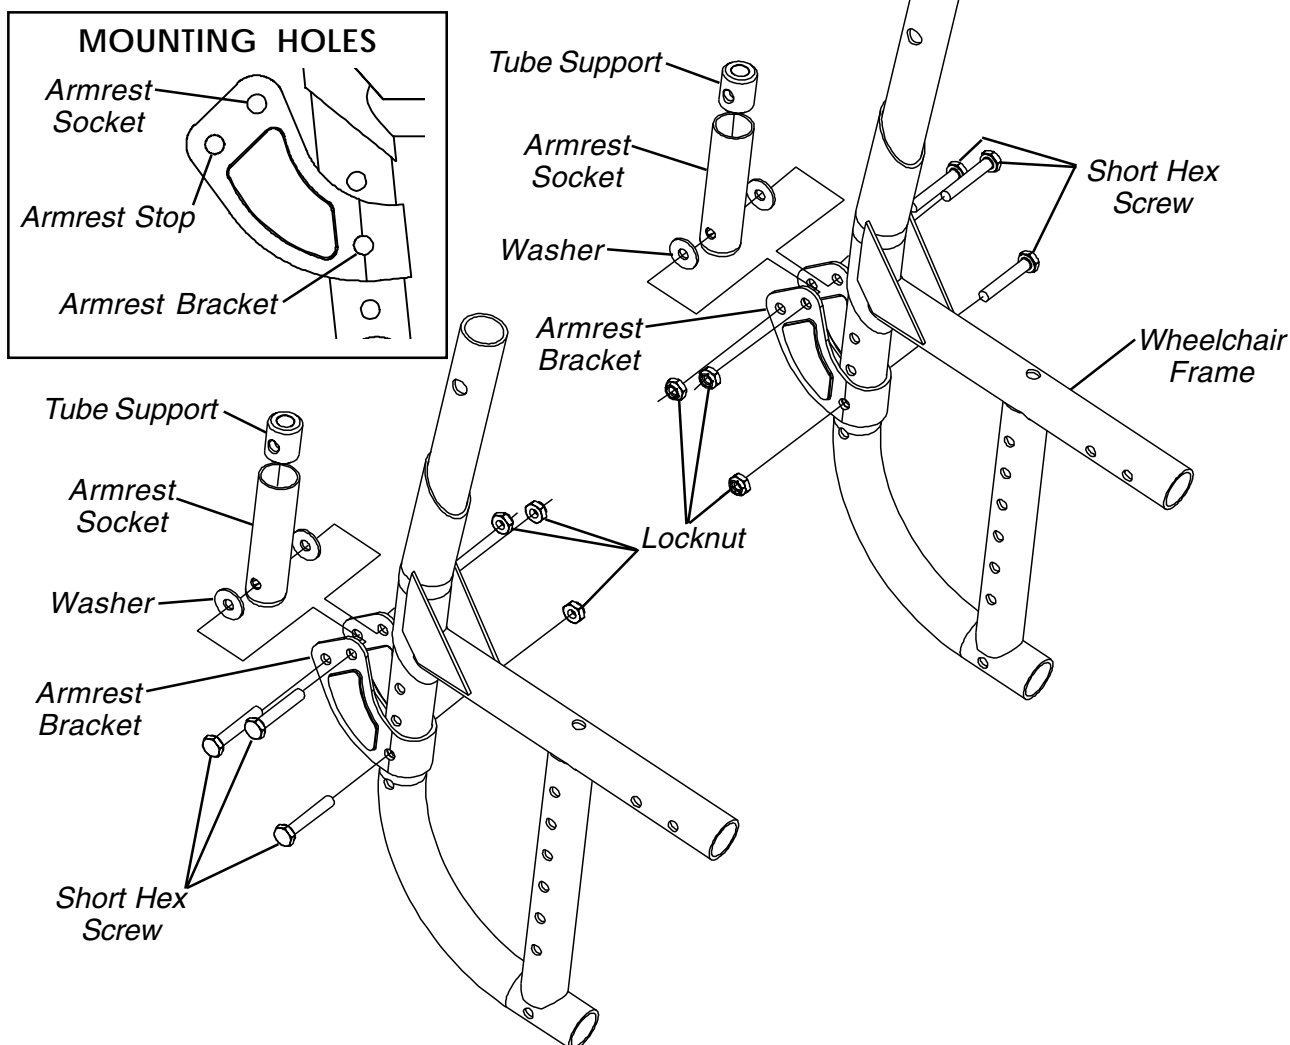

FIGURE 4 - REAR ARMREST SOCKET INSTALLATION ON WHEELCHAIRS BUILT AFTER 7/00 - SPACE SAVER ARMREST SOCKETS
### Space Saver Armrest Sockets (FIGURE 4)
*NOTE: Mounting hardware must be installed in the orientation shown in FIGURE 4.*
5. Install short hex screw through armrest bracket, washer, armrest socket, tube support, washer and armrest bracket as shown in FIGURE 4.